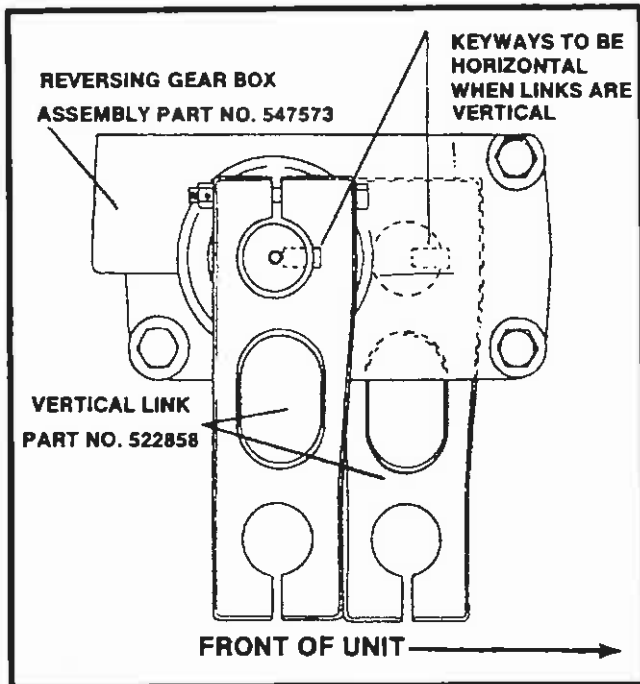

FIGURE 13
See Figure 13.
1. Keyways must be aligned as shown in Figure 13. If the gears are off one tooth, the keyways will be approximately 24° out of alignment. This misalignment will cause one of the return links to hit the rubber bumpers hard and hit the bottom of the gearbox. Elongated holes in the turf, torn and tufted turf, and broken tines could also result from this condition.